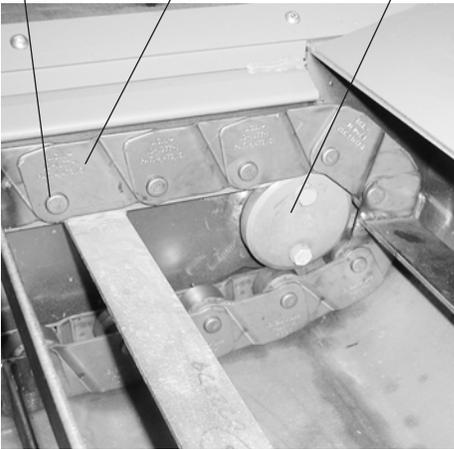

Figure 12. Tail Hub (Note that a drag chain unit is shown here. The hub is identical on the metal belt unit)
4. Check the tail hubs (or sprockets on larger units) for wear. (See Figure 12.) Normally, this is not a problem and need only be performed when the conveyor is being completely disassembled.